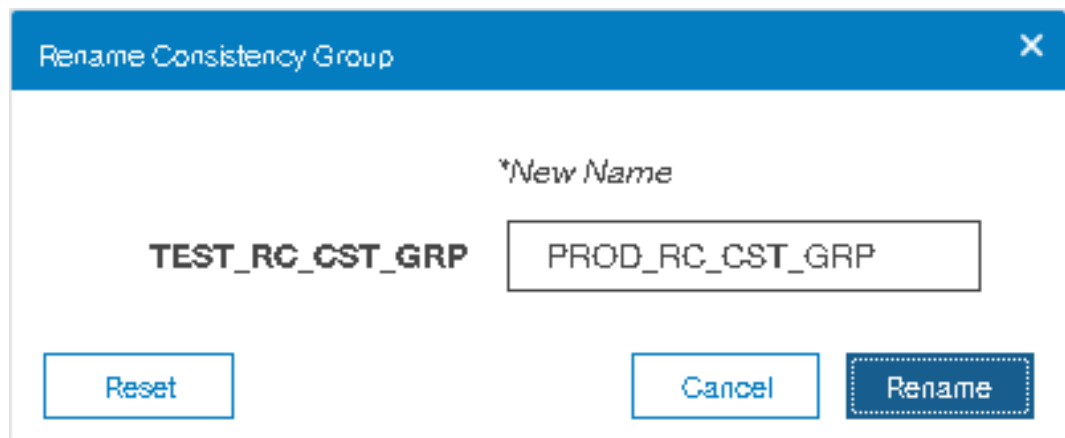

Figure 10-125 Changing the name for a Consistency Group
3. Enter the new name that you want to assign to the Consistency Group and click **Rename**, as shown in Figure 10-125.